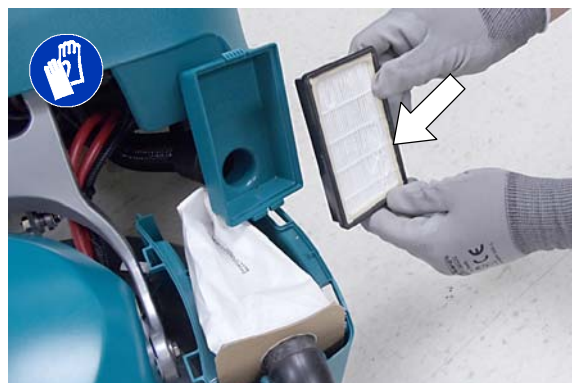

FIG. 36
2. Replace the HEPA filter if model is equipped with the active dust control collection option (Figure 36).